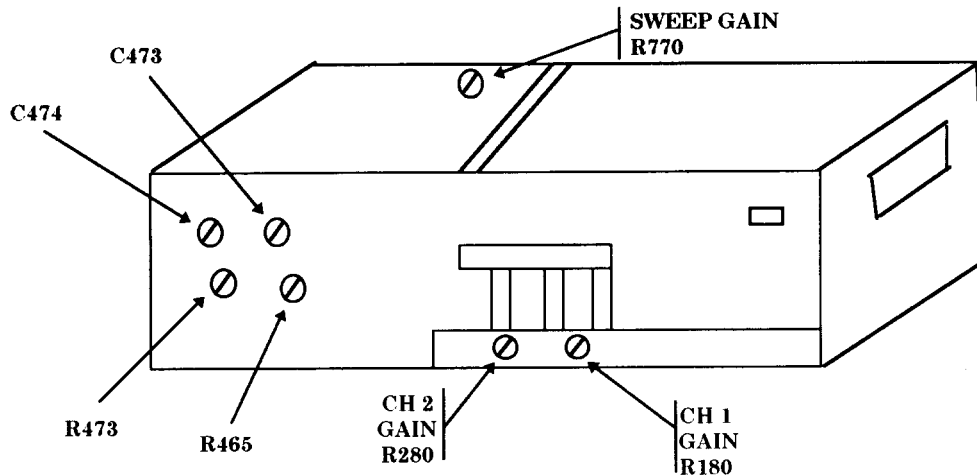

Figure 4. Test instrument – left side view.
**b. Adjustments.** Rotate oscilloscope calibrator **EDIT FIELD** knob for an **err** display of **0.0%**. Adjust CH 1 GAIN R180 (CH 2 GAIN R280) (fig. 4) for 5 divisions of vertical deflection (R).
- (1) Position controls as listed in (a) through (c) below:
- (2) Connect oscilloscope calibrator **SOURCE/MEASURE CHAN 1** to **TI CH 1** input.
- (3) Set oscilloscope calibrator **CHAN 1 MARKER** output to **0.2 ms**.
- (4) Adjust horizontal **POSITION** control and rotate oscilloscope calibrator **EDIT FIELD** knob to align 1 time marker per division over center 8 divisions. If oscilloscope calibrator **err** display readout does not indicate within  $\pm 2\%$ , perform **b** below.
**b. Adjustments.** Rotate oscilloscope calibrator **EDIT FIELD** knob for an **err** display of **0.0%**. Adjust **SWEEP GAIN R770** (fig.4) until **TI** displays 1 marker per division over center 8 divisions (R).
(1) Adjust **R465** (fig. 4) for optimum square wave, without roll-off or overshoot (R).
(2) Adjust **R473, C473, and C474** (fig. 4) for optimum square front corner without roll-off or overshoot of waveform (R).